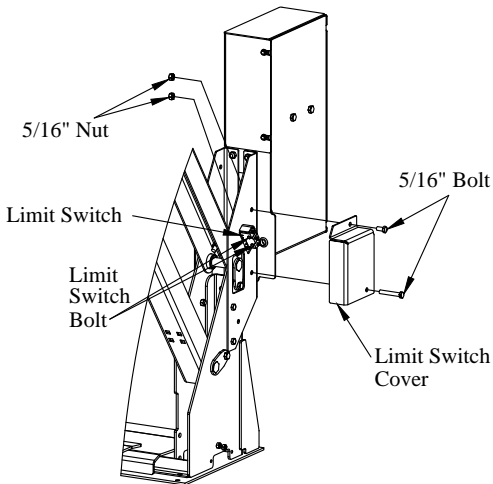

Figure 6: Limit Switch.
5. **Remove** the limit switch cover by removing two (2) 5/16" bolts and nuts (Figure 6).
6. **Loosen** the bolts holding the limit switch (Figure 6).
9. **Install** the limit switch cover with 5/16" bolts and nuts. Be careful not to over tighten the 5/16" bolts (Figure 6).